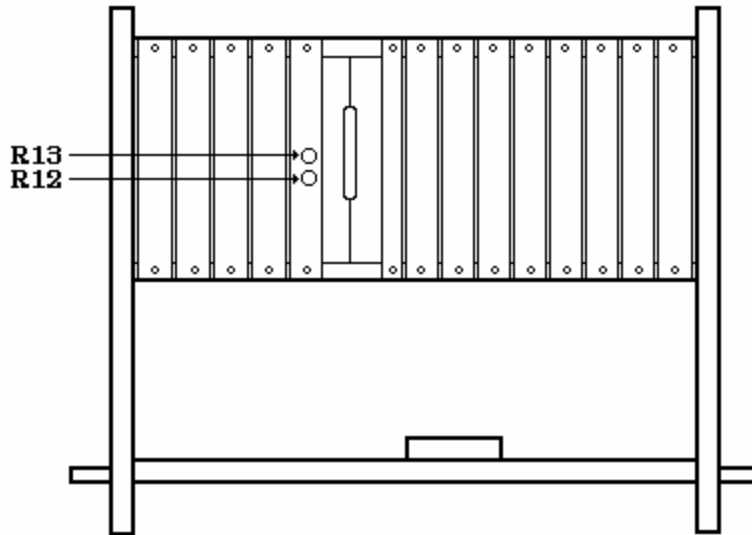
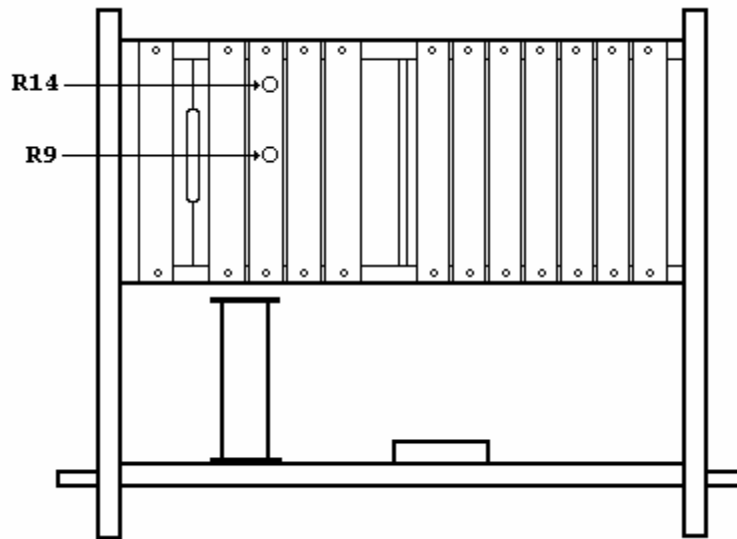

Figure 1. Tracor Models 527A and 527E top view.
Figure 2. Hickok Model FDM 2100 top view.
- (1) Adjust R12 (fig. 1) (R9 (fig. 2)) until TI indicates +9 (R).
- (2) Adjust R13 (fig. 1) (R14 (fig. 2)) until TI indicates +9 (R).